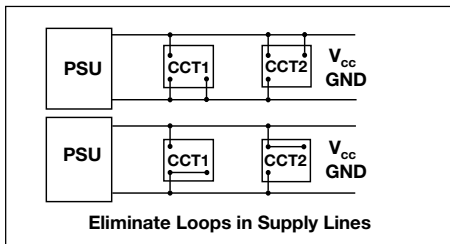

Fig. 7
- Eliminate loops in the supply lines. (Fig. 7)